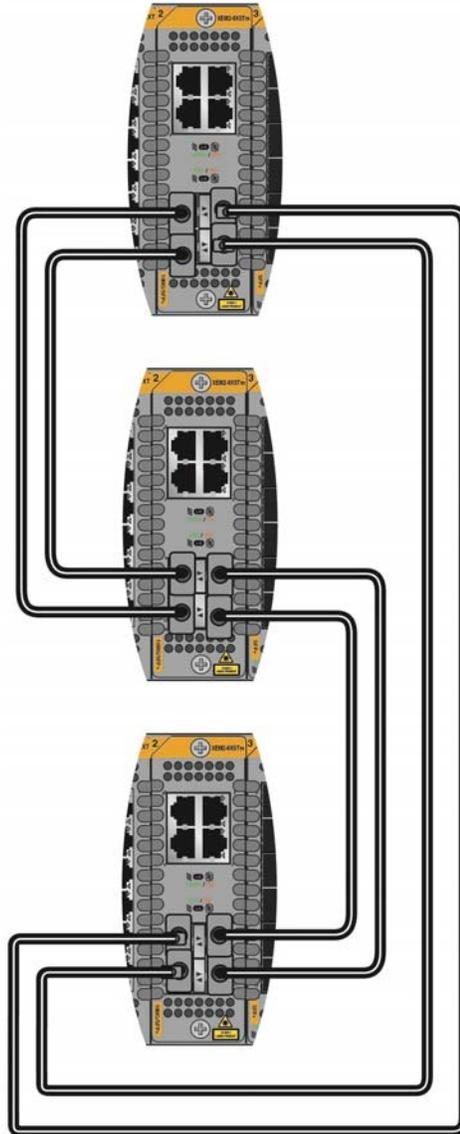

Figure 23. Example of a Stack Trunk of Ports on XEM2-8XSTm Line Cards
- The XEM2-8XSTm Line Card has four twisted pair ports and four SFP+ ports. When building a trunk with the ports on this line card, you can use either the twisted pair or SFP+ ports, but not both. Figure 23 is an example of a trunk of SFP+ ports on XEM2-8XSTm Line Cards for a stack of three switches.